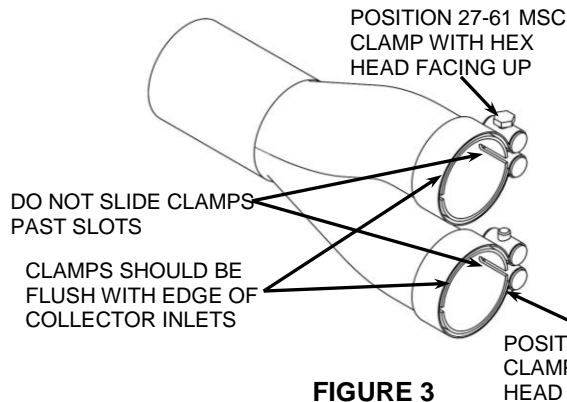

FIGURE 3
- Position the supplied #27-61 MSC clamps with hex head facing the direction shown in **FIGURE 3** and slide them onto the collector inlets.
15. Secure the muffler assembly to the exhaust mount bracket using the (2) supplied 5/16"-18 bolts but **DO NOT TIGHTEN**.
16. Make sure the muffler assembly, collector, front headpipe, and rear headpipe are aligned properly and tighten in the following order; headpipe flanges to the cylinders (slowly tightening opposing nuts), front headpipe/collector clamp, rear headpipe/collector clamp, muffler clamp, and finally the muffler to the exhaust mount. (NOTE: The muffler clamp and headpipe clamps should be flush with the end of the inlets when tightened. See **FIGURE 3 & 4**. If the clamps are slid past the slots on the inlets the clamps will not tighten properly).